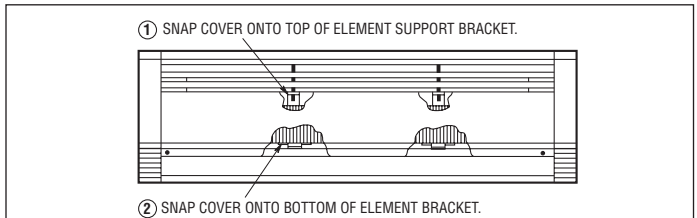

Figure 7. Cover Attachment
12. Replace the front cover by fitting the top lip of the cover onto the tabs on each junction box and top edge of the element support bracket(s). Rotate the cover downward, pushing the bottom corners inward. Install two screws (removed in Step 4) through the cover into the junction boxes. See that the bottom of the cover is engaged onto the bottom of each element support bracket. See Figure 7.